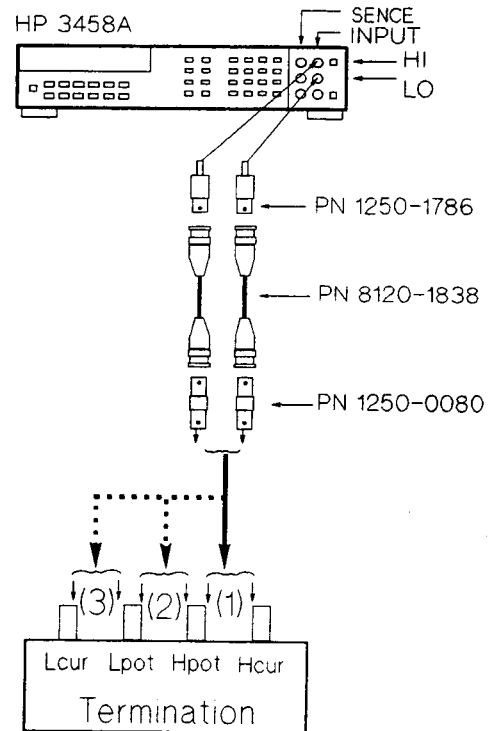

Figure 3-1. Verification Check Setup for OPEN and SHORT
2. Connect the multimeter to Hcur and Hpot of the OPEN termination as shown in Figure 3-1 (1).
4. Connect the multimeter to Hpot and Lpot of the OPEN termination as shown in Figure 3-1 (2).
6. Connect the multimeter to Lpot and Lcur of the OPEN termination as shown in Figure 3-1 (3).
2. Connect the multimeter to Hcur and Hpot of the SHORT termination as shown in Figure 3-1 (1).
4. Connect the multimeter to Hpot and Lpot of the SHORT termination as shown in Figure 3-1 (2).
6. Connect the multimeter to Lpot and Lcur of the SHORT termination as shown in Figure 3-1 (3).